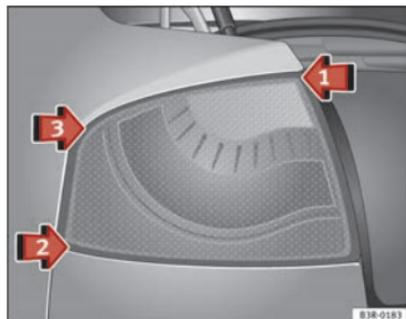
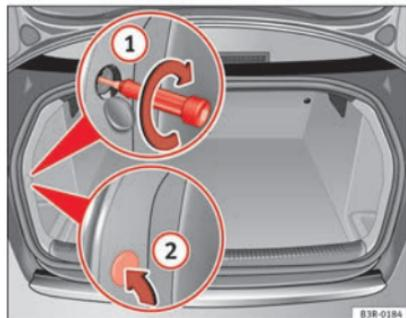

Fig. 215 Fitting the tail light unit
Fig. 216 Luggage compartment: Location of the bolt securing the tail light unit
- First place the tail light unit in ⇒ Fig. 215 arrow ① in the housing.
- Gently press the tail light unit against the housing, first in position ② and then in position ③, until that the clips engage firmly in the rubber mountings.
- Apply gentle pressure to the upper part of the tail light unit and secure using the screwdriver, from the luggage compartment ⇒ Fig. 216 ①.
- Replace the cover ② in the interior trim.